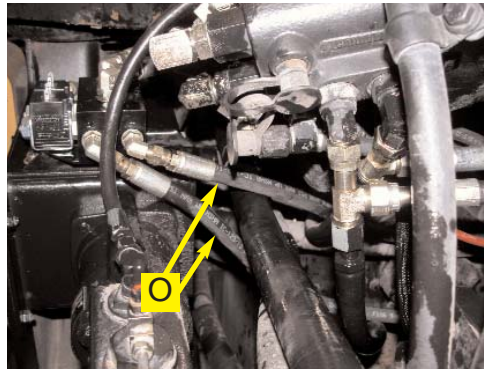

Figure 4a. Installed pressure and tank hoses at Automated Steering Block.
- a. Using adapter fitting (**G**), connect the pressure hose (**O**) from the pressure run tee fitting (**F**) installed in step 3 to the **P** port on the Automated Steering Block. (Figure 4a and 4b.)
- b. Using adapter fitting (**G**), connect the tank hose (**O**) from the tank run tee fitting (**F**) to the **T** port on the Automated Steering Block. (Figure 4a and 4b.)